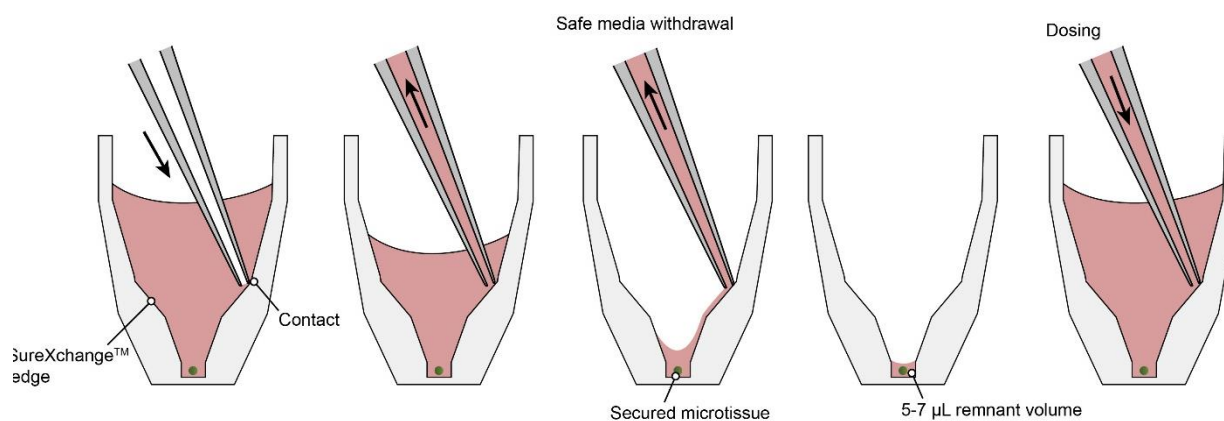

Figure 9: Medium exchange in the Akura™ 96 Plate. Left: Medium removal with the pipette tip placed at the ledge of the well. Right: Medium addition.
1. Place the pipette tip at the ledge of the well (Fig. 9, left).
3. Add 70  $\mu\text{l}$  of fresh medium by placing the pipette tip at the ledge (Fig. 9, right). Use a dispensing rate <50  $\mu\text{l}/\text{sec}$  when using Integra Viaflo pipettes.
1. Place pipette tip at the ledge by slowly sliding down along the inside wall of the well until a subtle resistance can be felt (Fig. 9, left)
3. Add 70 µl of pre-warmed medium by placing the pipette tip at the ledge of the plate well (Fig. 9, right) and gently dispense at low pipetting speed (speed dependent on spheroid type, ~10 – 30 µl/sec if using an automated multi-channel pipette).